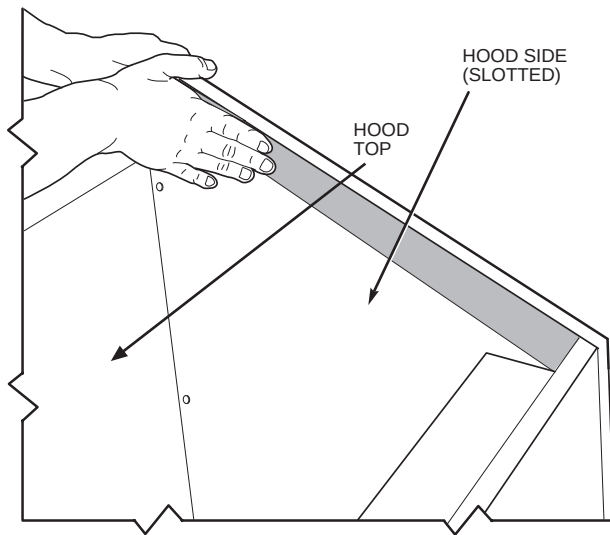

Fig. 30 — Adding Foam Strip to Hood Side
7. Place gray foam strip (provided) on inside of slotted hood side between filter and cross member opposite the mounting end. See Fig. 30.